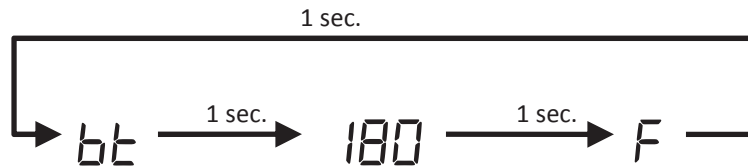

FIGURE 12.3: TYPICAL OPERATING MODE DISPLAY (BOILER TEMP SHOWN)
2. Operating Mode - Provides additional information about the current status of the boiler. Operating mode is entered by pressing the **I** button shown in Figure 12.0. When this button is first pressed in Status mode, the display will alternately display *bE* and the current boiler water temperature as shown in Figure 12.3. Pressing the **I** button again will display the next line item shown in Table 12.2. In the same manner it is possible to advance through all of the “parameters” shown in Table 12.2. To return to Status mode, press **I** repeatedly until *5E#* once again appears on the display. Alternatively, the control will return to Status mode if no key is touched for 1 minute.
In operating mode, holding either the ↑ or ↓ button while viewing a given parameter will keep the display on the actual reading. For example, pressing ↑ while reading boiler temperature as shown in Figure 12.3 will keep the display on 180 for as long as this button is held. This makes it easier to view readings “live” if they are changing rapidly